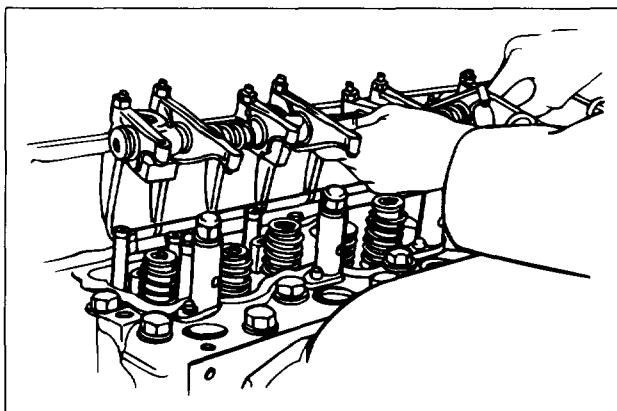

FIG. 4
2. Install 6V 4186 timing pin in the fuel injection pump housing as shown in Fig. 4. **Slowly** rotate the crankshaft counterclockwise until the timing pin goes into the slot in the fuel pump camshaft. The number 1 piston is now at top dead center of the compression stroke. Proceed to Step 5 above.